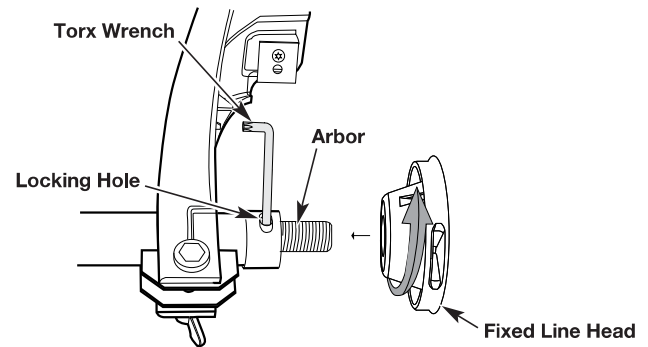

Fig. 19a
4. Screw the fixed head clockwise onto the arbor until securely tightened (Fig. 19a). Remove the Torx wrench from the locking hole.